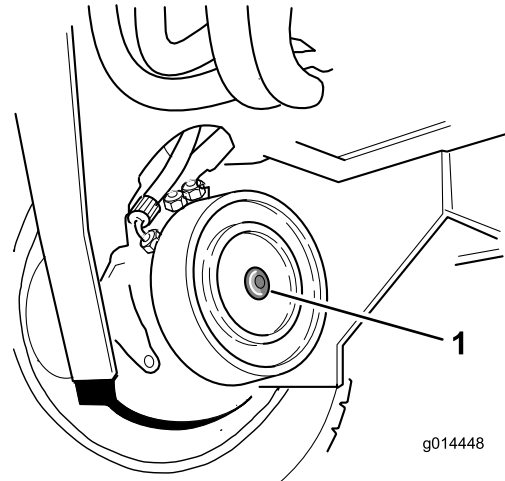

Figure 35
2. Identify the right front wheel motor disc brake assembly and remove the hex plug (**Figure 35**).